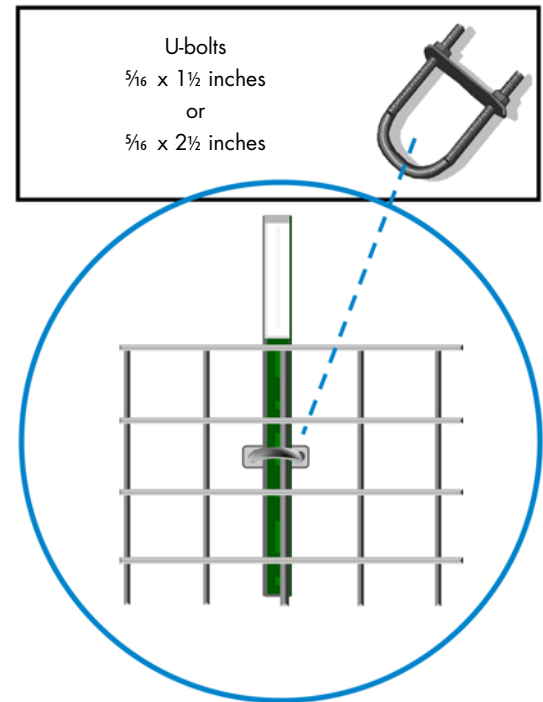

Figure 3. Use two U-bolts per post.
5. Fasten the livestock panels to the T-posts; use two U-bolts per post, one at the bottom of the panel about 12 inches from the ground and one below the top strand of the panel (**Figure 3**). If using heavy-gauge wire to fasten the livestock panels to the T-posts, use a wire fastener every 1 foot, beginning a few inches from the ground (five per T-post).